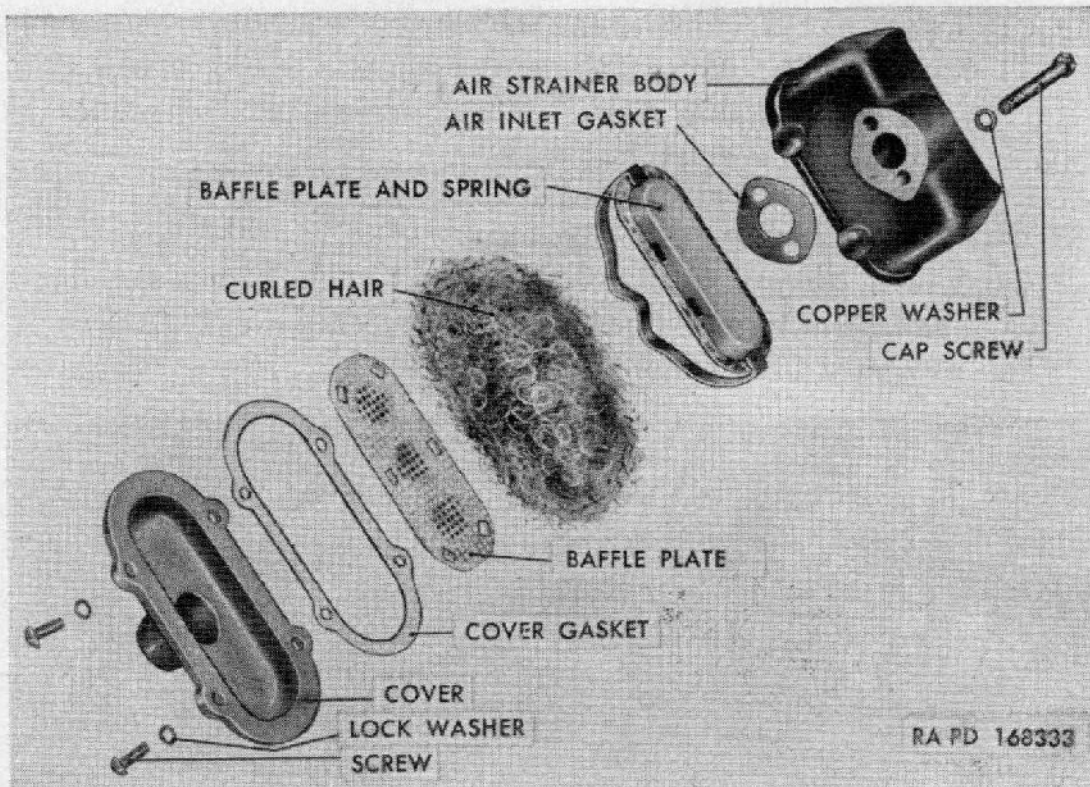

Figure 143. Air-compressor air strainer—exploded view.
- (2) Compressor pulley is made with adjustable outer flange. To adjust compressor belt, loosen set screw in hub of inner flange. Using wrench 41-W-3250-510, turn flange in or out on threaded hub until desired belt tension is obtained. Turn flange in to tighten belt.
- (3) Turn flange until set screw aligns with a groove cut in threaded hub and tighten set screw.
- c. AIR STRAINER (fig. 143).
- (1) To clean air strainer, loosen hose clamp and detach air intake hose from strainer cover. Remove two cap screws and copper washer holding strainer to compressor and remove air inlet gasket and strainer.